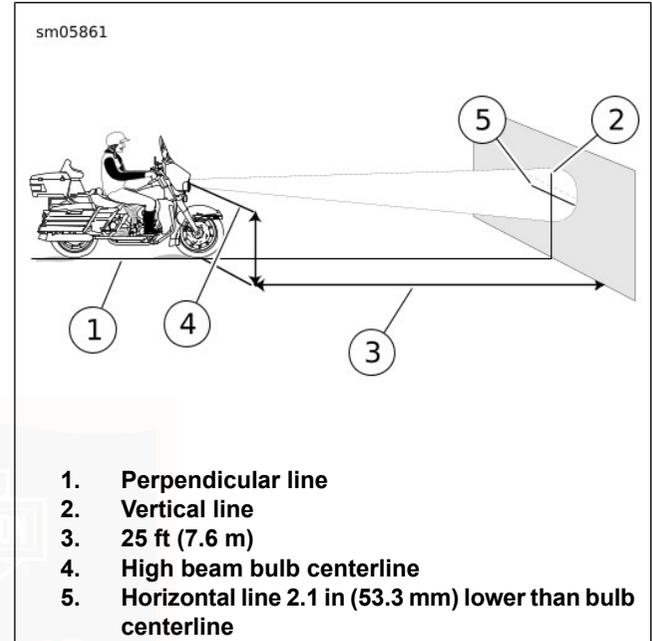

Figure 56. Check Headlamp Alignment
See Figure 56. To aid in properly placing the motorcycle, a perpendicular line (1) can be drawn on the floor. For best results, choose an area with minimum light.
3. Draw a vertical line (2) on the wall.
2. Adjust the light beam until it is centered as shown in Figure 56.